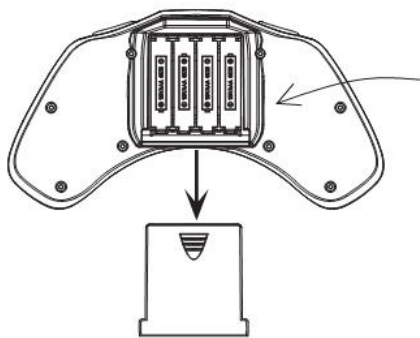
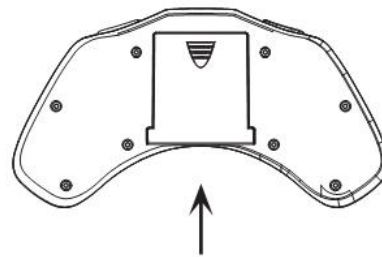

Fig. 1
Fig. 2
1. Open the battery door by slide it off as the Fig. 1 below:
2. Install four (4) AAA size batteries into the battery compartment as the polarity markings inside. (For longest playing time, Alkaline batteries are recommended.)
3. Close the battery door as the Fig. 2 below: